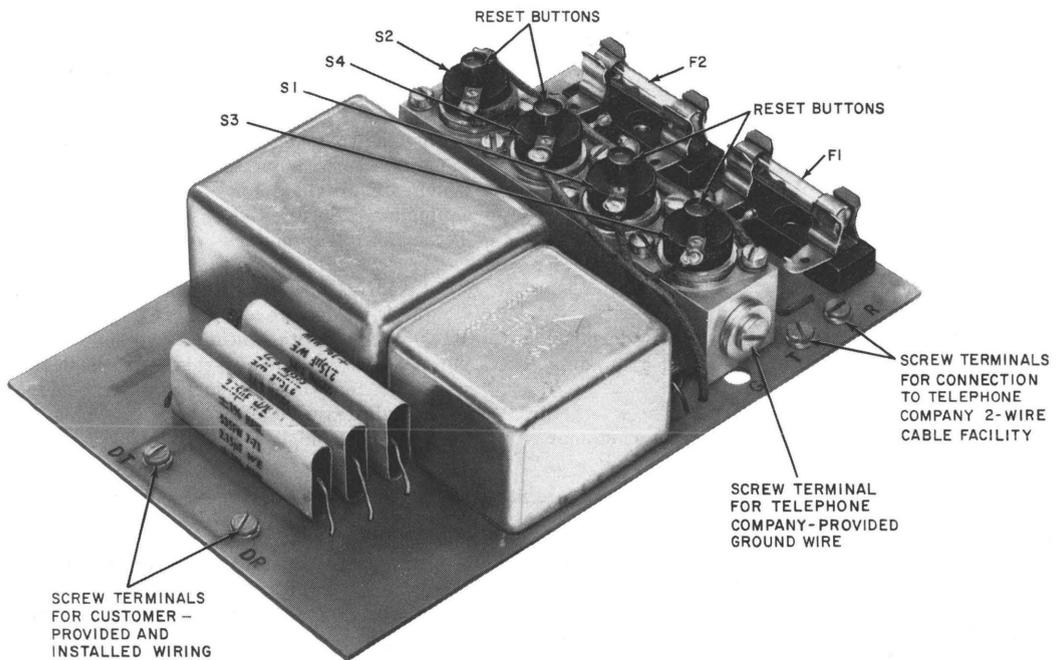

Fig. 2—FT6 Circuit Pack
(6) Connect the No. 14 station ground wire to terminal G on the metal heat sink on the FT6 circuit pack (see Fig. 2, 3, and 4). Insure that the ground wire insulation extends above the level of the circuit board. The other end of the No. 14 station ground wire must be connected to an approved grounding electrode. Attach ground warning tag 3013B (not supplied with unit).
(7) Refer to Section 460-100-201 for proper station grounding procedures.
(8) Perform tests shown in 5.04 after installing.
(9) Connect the two leads from the D station wire to terminals T and R on the printed wiring board.
on which the diodes are mounted reaches 194°F, one or more of the thermal switches S1, S2, S3, or S4, which are mounted on the same heat sink, will function to open the circuit. Therefore, the IU circuit has the capability to limit the voltage from the CP equipment indefinitely. The reset buttons located on the top of the thermal switch body (see Fig. 2) must be depressed to restore the circuit to normal after the thermal switches have operated. The reset buttons will not restore the circuit to normal until the temperature of the heat sink drops to approximately 184°F. The snap-off cover assembly must be removed to gain access to the thermal switch reset buttons.
(e) Depress the reset buttons on thermal switches S1, S2, S3, and S4 (see Fig. 2).